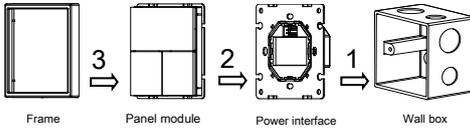

Figure 6. Installation
**Installation - See Figure 6**
Installation	Wall box (See Figure 6)